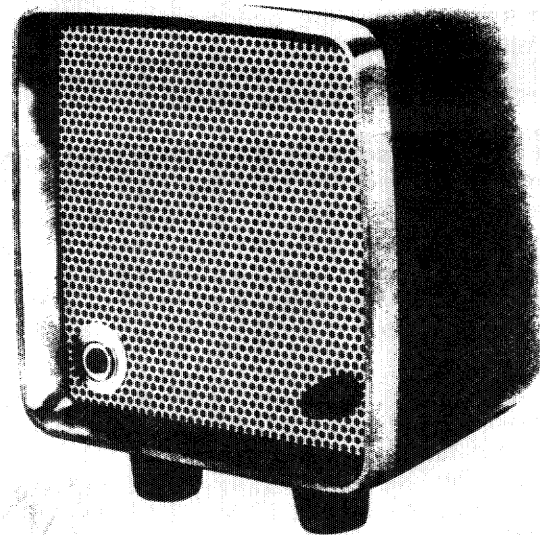

figure 1. 9791 Loudspeaker
1.01 The Tellabs 9791 Loudspeaker (figure 1) is an enclosed 5-inch speaker with an integral 0.5-watt amplifier. Featuring automatic-gain-control (AGC) circuitry, the 9791 is equivalent to the industry-standard Type 106B loudspeaker.